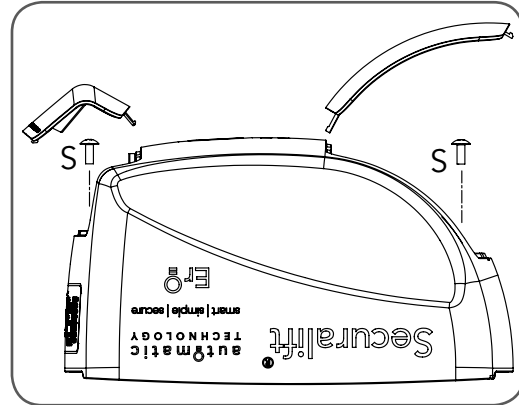

Fig 50
- Swing open the light diffuser and controls cover. Remove screws marked "S" above in **Fig 50** and lift up the main cover.